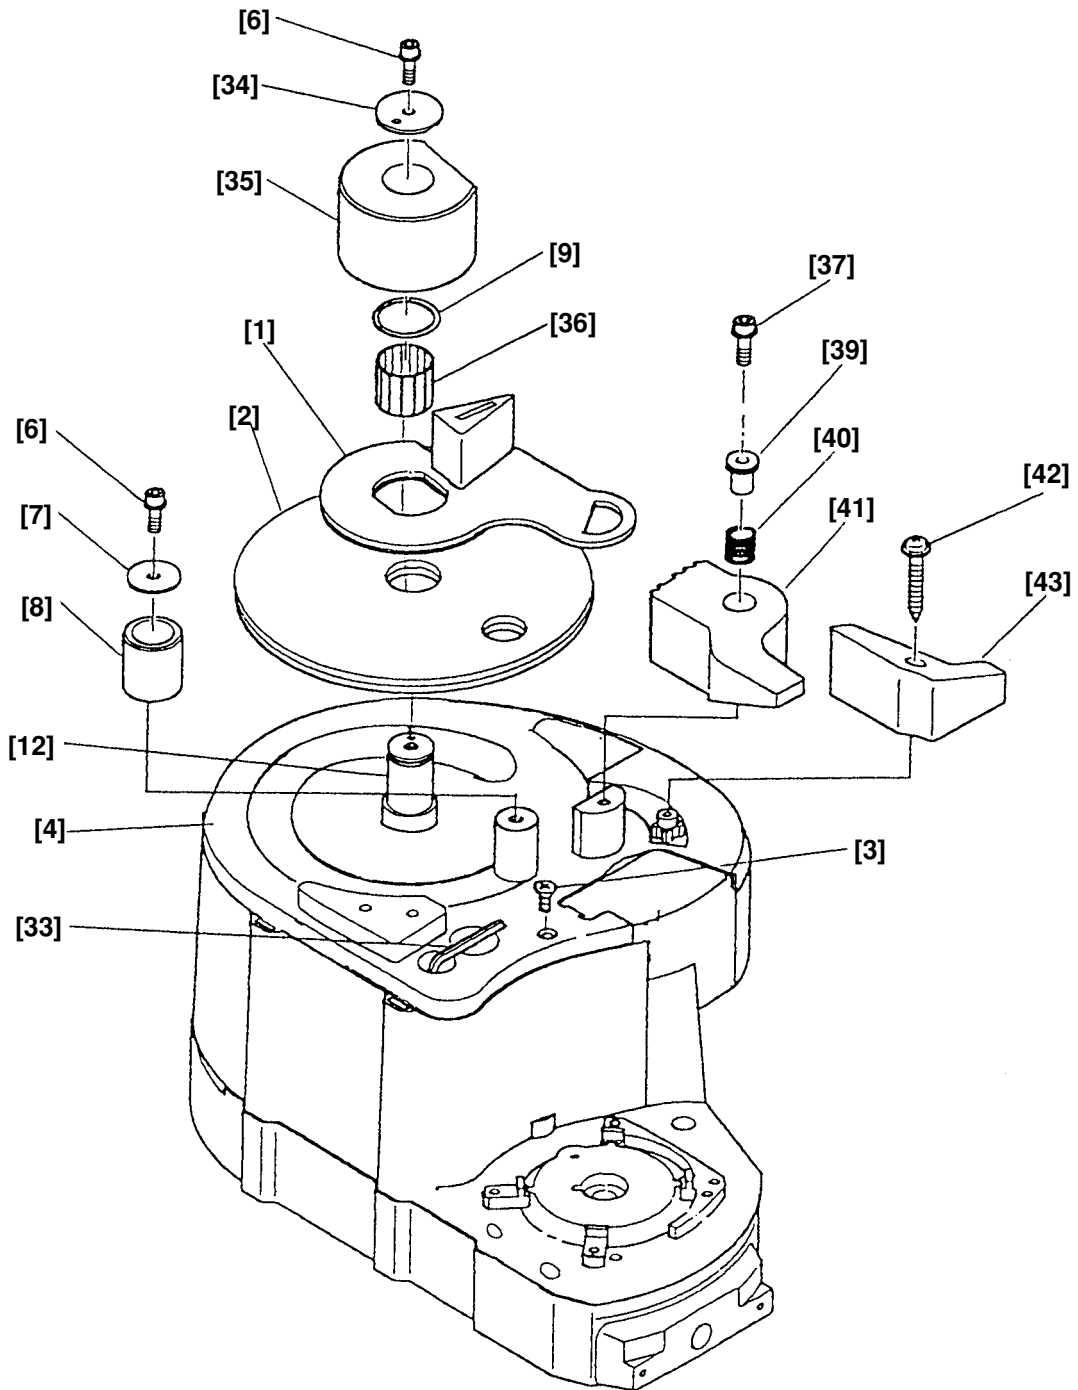

Fig. 10
(3) Disassembly of the bending unit (Fig. 10)